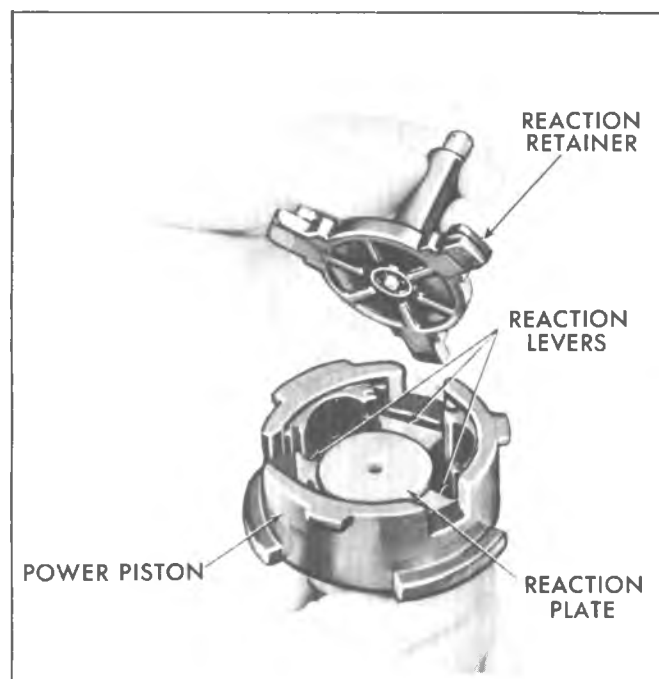

Fig. 5-5C--Removing Reaction Retainer
4. Remove reaction retainer, piston, reaction plate, three (3) reaction levers and air valve spring. Also remove reaction bumper and air valve spring retainer from air valve (fig. 5-5C).